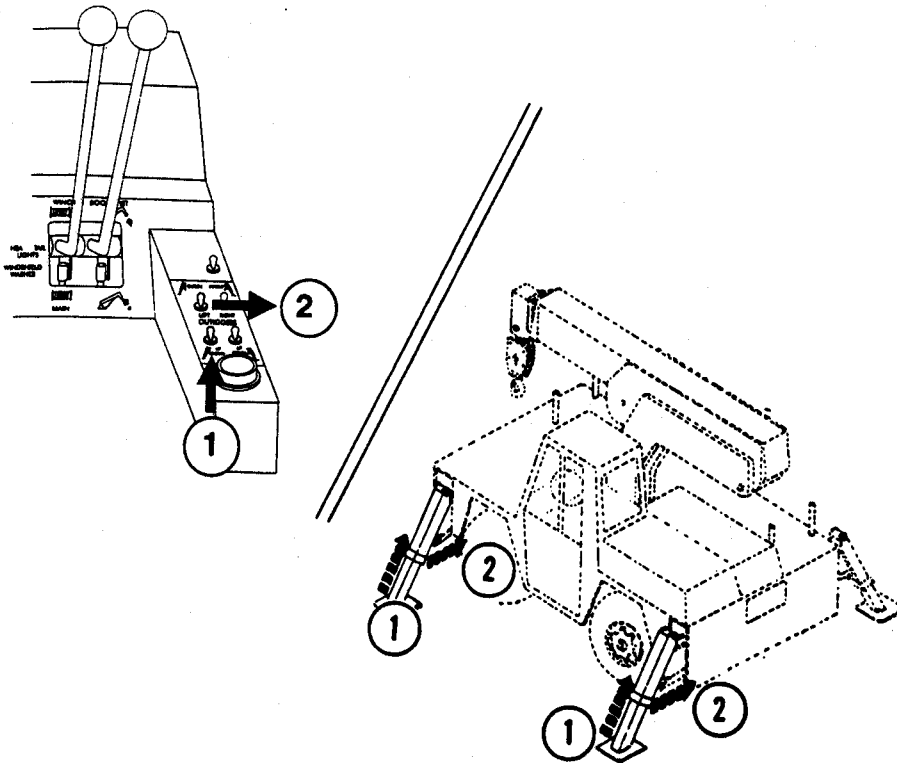

Figure 9. To Raise and Retract the Outriggers
1. To Raise: Run the engine at low rpm (accelerator pedal released). Engage and hold the desired switch up as required (Figure 9, Item 1). Push the accelerator pedal to increase the engine rpm and accelerate the upward movement of the outriggers. Release the accelerator pedal and the switch when the outriggers are fully raised.
2. To Retract: Engage and hold the desired switch as required (Figure 9, Item 2). Push the accelerator pedal to increase the engine rpm and accelerate the retraction of the outriggers. Release the accelerator pedal and the switch when the outriggers are fully retracted.